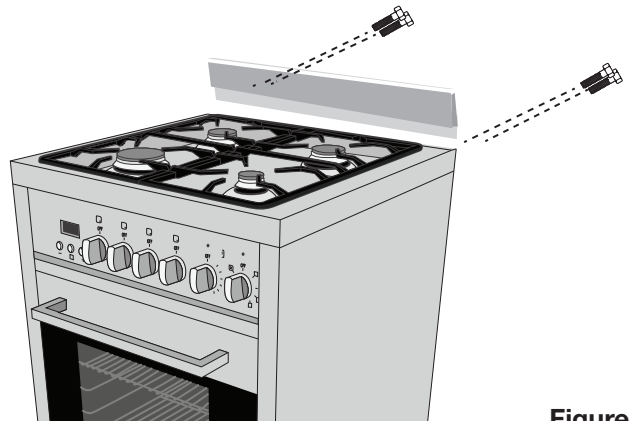

Figure 7
**6** (Optional Step) Insert the stainless steel back splash into the grooves on the top rear of the range then secure using the hex screws. (See Figure 7)